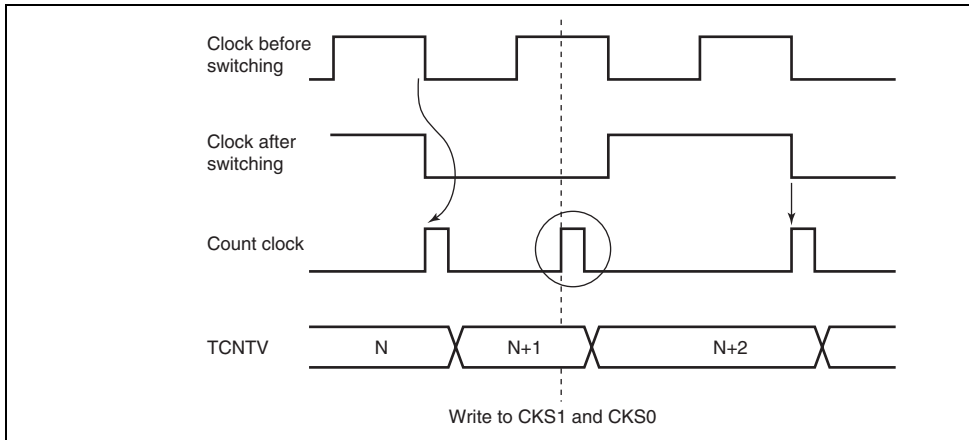

Figure 11.13 Internal Clock Switching and TCNTV Operation
4. Depending on the timing, TCNTV may be incremented by a switch between different clock sources. When TCNTV is internally clocked, an increment pulse is generated on the falling edge of an internal clock signal, that is divided system clock (ϕ). Therefore, in figure 11.13 the switch is from a high clock signal to a low clock signal, the switch is seen as a falling edge, causing TCNTV to increment. TCNTV can also be incremented by a switch between internal and external clocks.